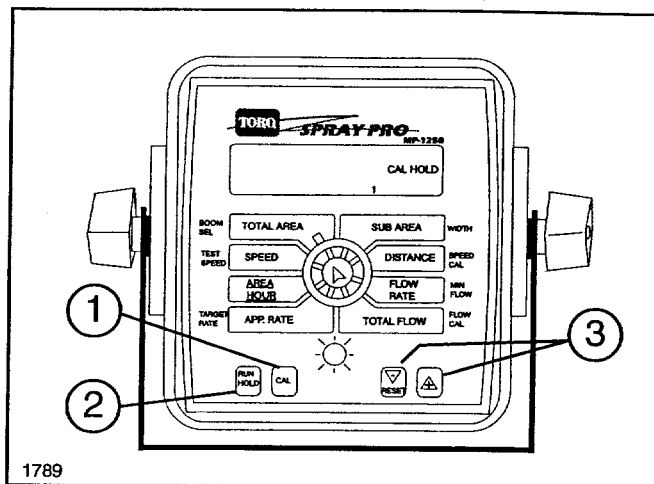

FIG. 2
To activate the Metric mode, turn ignition switch "OFF" and place the rotary switch at "SUB AREA." Hold down both the "CAL" and "-" keys and turn power ON (See FIG. 2). The console will display Metric measurements. Once powered up, release the two keys. To "lock-in" Metric mode you must enter calibration. Press and HOLD the CAL key until "CAL" lights on the display. The console is now in calibration and Metric mode is locked-in. Exit CAL by pressing and holding the "CAL" key until CAL disappears from the display (approximately 3 seconds).
2. Press and hold the "CAL" key for three seconds to select the calibration mode. The console display will read "CAL" (See FIG. 2), and the red warning light will turn on.